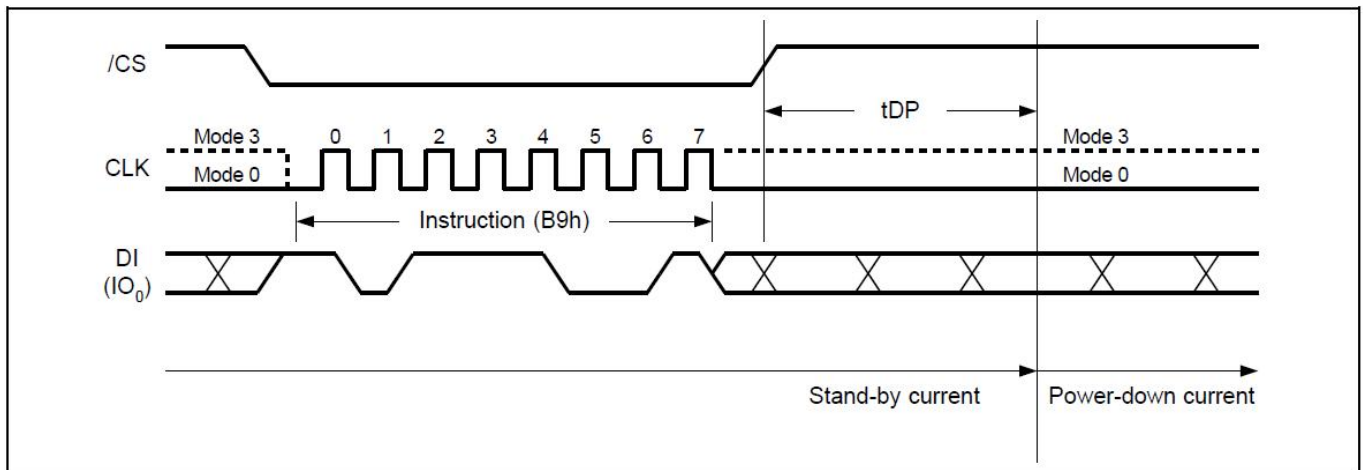

Figure20. Deep Power-Down Sequence Diagram
The Deep Power-Down Mode automatically stops at Power-Down, and the device always in the Standby Mode after Power-Up. The Deep Power-Down command sequence: CS# goes low → sending Deep Power-Down command → CS# goes high. The command sequence is shown in Figure20. CS# must be driven high after the eighth bit of the command code has been latched in; otherwise the Deep Power-Down (DP) command is not executed. As soon as CS# is driven high, it requires a delay of tDP before the supply current is reduced to IDPD and the Deep Power-Down Mode is entered. Any Deep Power-Down (DP) command, while an Erase, Program or Write cycle is in progress, is rejected without having any effects on the cycle that is in progress.